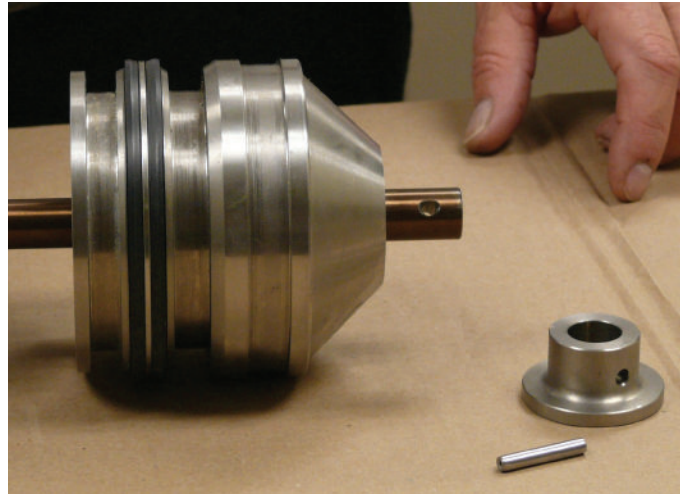

Figure 9-23 Slide Piston onto Shaft
2. Lubricate front portion of shaft and carefully slide piston into place. (Figure 9-23)